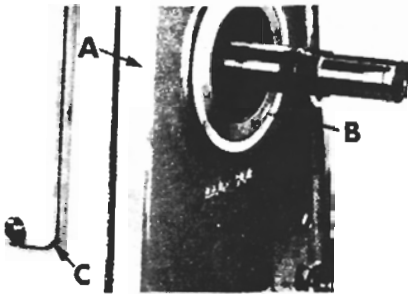

Figure 33
22. Install back plate (A, fig. 33) and oil cover (B) on column with cap screws -- use roll pins as alignment guide.
23. Install drain plug, refill with oil, install cover (C).